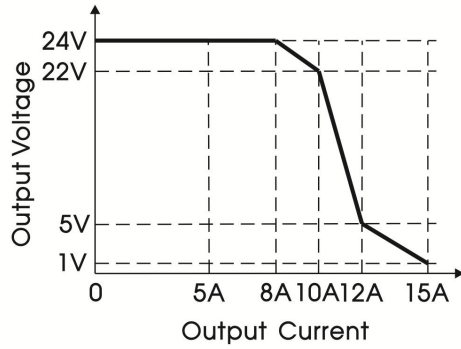

Figure 3
2. Figure 3 shows that the product will enter the overload state when the rated output current increases to 100%-150%I_o (TYP.), and enter the overcurrent protection when the current > 150%I_o (TYP.), and the output voltage will decrease with the increase of the output current. When the output current increases to a certain value, the product will enter the constant current mode;